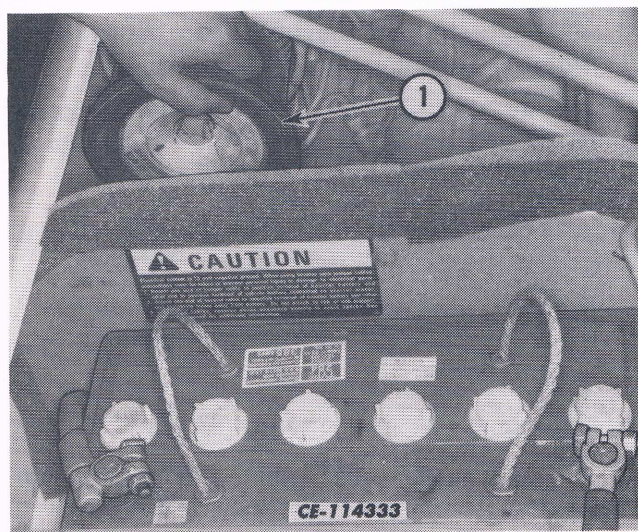

Fig. 2. Removal of the Filter Element
3. Grasp the element (1, Fig. 2) by the seal and slowly remove it from the body by pulling straight out.